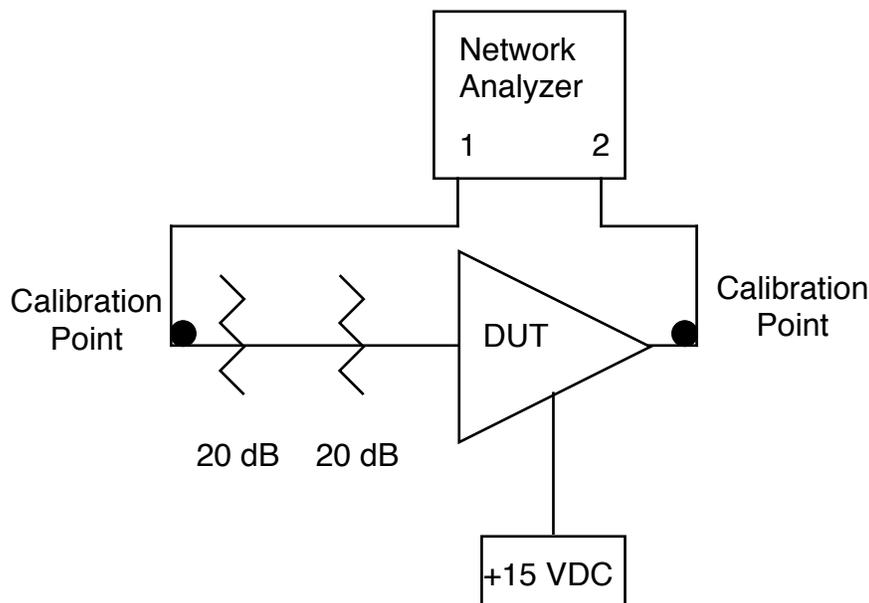

Figure 1
8. Hook up the amplifier as in figure 1 below with the two 20 dB pads on the INPUT.